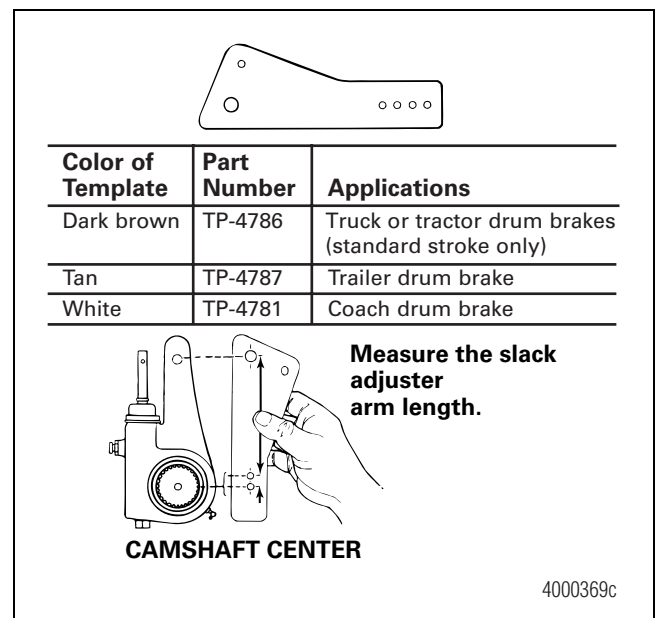

Figure 5.14
1. Use the correct Meritor automatic slack adjuster template to measure the length of the slack adjuster. The marks by the holes in the small end of the template indicate the length of the slack adjuster. Figure 5.14.